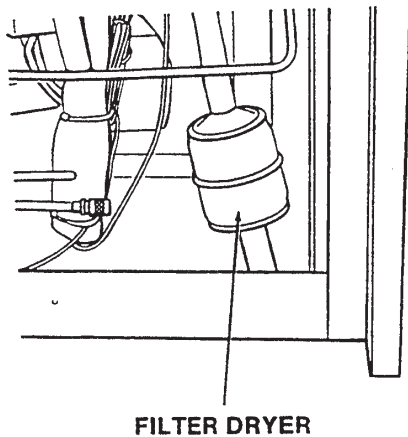

Figure 42. Filter Drier
5. Replace the filter drier using the appropriate brazing material (Figure 42).